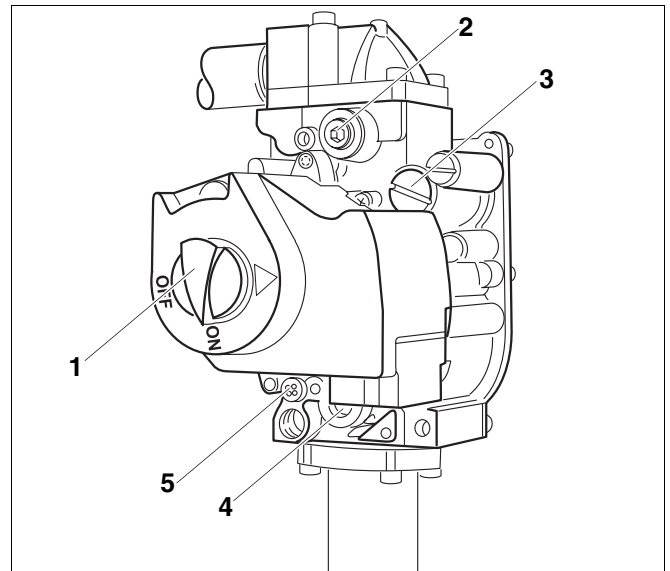

Fig. 24 GC124 II gas valve
- Compare the orifice pressure with the values in → Tab. 8. If it differs by more than 0.2" W.C., adjust accordingly. To set the orifice pressure, the protective screw on the gas valve must be removed (→ Fig. 24). Turn the adjustment screw clockwise to increase the pressure, and counterclockwise to reduce the pressure. This setting must be adjusted while the boiler is operating.